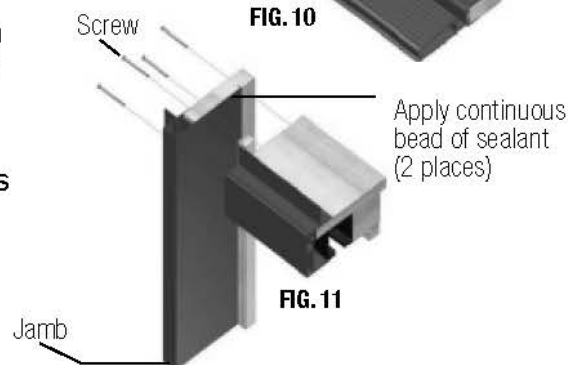

FIG. 11
- F) Apply 100% silicone sealant to the end of the head track assembly, attach the jambs to the head with the 2-1/2" x #8 screws provided. (Fig. 11)